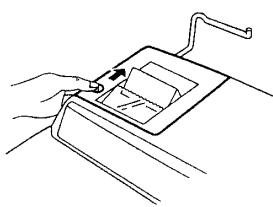

Fig. 1
3. Remove the printer cover by sliding it towards the back of the calculator. (Fig.1)